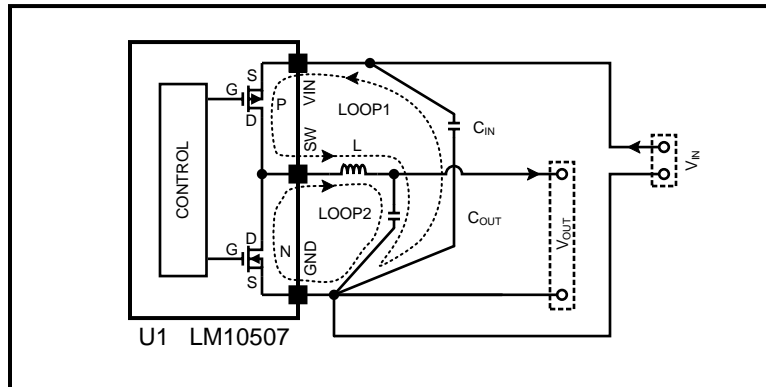

Figure 23. Schematic of LM10507 Highlighting Layout Sensitive Nodes
1. Minimize area of switched current loops. In a buck regulator there are two loops where currents are switched rapidly. The first loop starts from the C_{IN} input capacitor, to the regulator V_{IN} terminal, to the regulator SW terminal, to the inductor then out to the output capacitor C_{OUT} and load. The second loop starts from the output capacitor ground, to the regulator GND terminals, to the inductor and then out to C_{OUT} and the load (see Figure 23). To minimize both loop areas the input capacitor should be placed as close as possible to the V_{IN} terminal. Grounding for both the input and output capacitors should consist of a small localized top side plane that connects to GND . The inductor should be placed as close as possible to the SW and output capacitor.